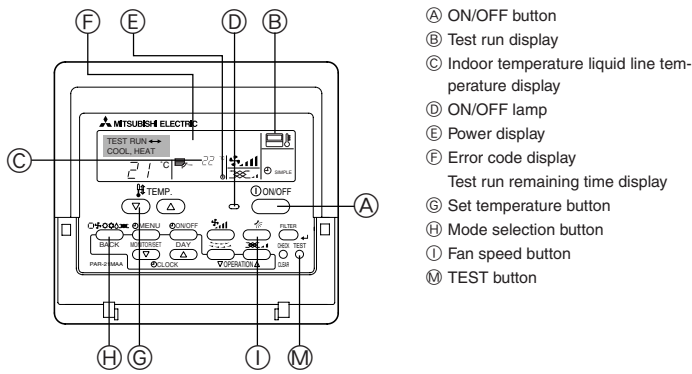

Fig. 10-1
10.2.1. Using wired remote controller (Fig. 10-1)
- ① Turn on the power at least 12 hours before the test run.
- ② Press the [TEST] button twice. ⇒ "TEST RUN" liquid crystal display
- ③ Press the [Mode selection] button. ⇒ Make sure that wind is blown out.
- ④ Press the [Mode selection] button and switch to the cooling (or heating) mode. ⇒ Make sure that cold (or warm) wind is blown out.
- ⑤ Press the [Fan speed] button. ⇒ Make sure that the wind speed is switched.
- ⑥ Check operation of the outdoor unit fan.
- ⑦ Release test run by pressing the [ON/OFF] button. ⇒ Stop
- ⑧ Register a telephone number.